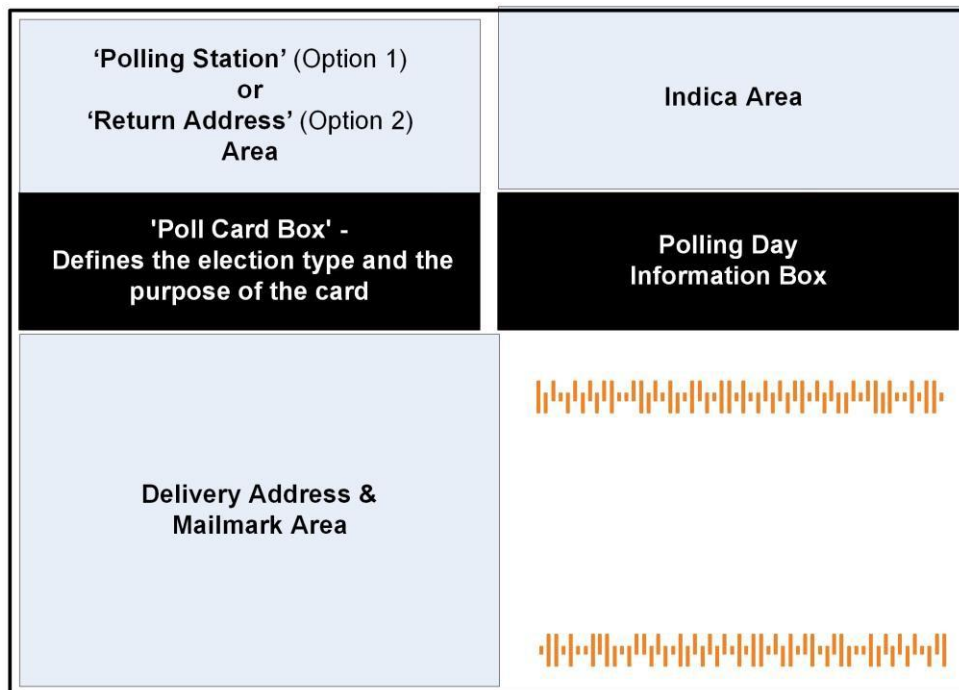

Figure 45: Poll Card Layout – Front
- The design requirements for the front of the Mailmark poll card are summarised below and illustrated in Figure 45.